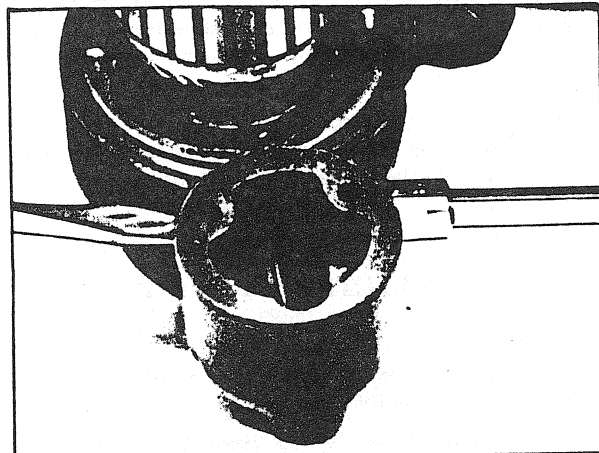

FIGURE 8
- Unscrew pivot bolt of shift lever in drive housing (Fig. 8).